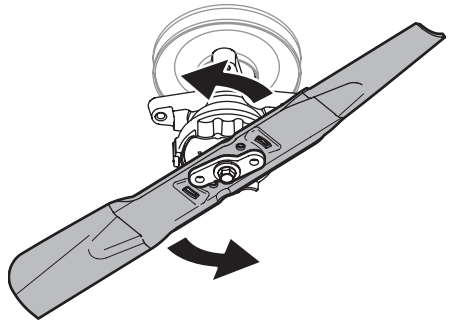

Figure 45
4. While holding the collar in the upward position, rotate the blade counter-clockwise to free it from the collar. See Figure 45.